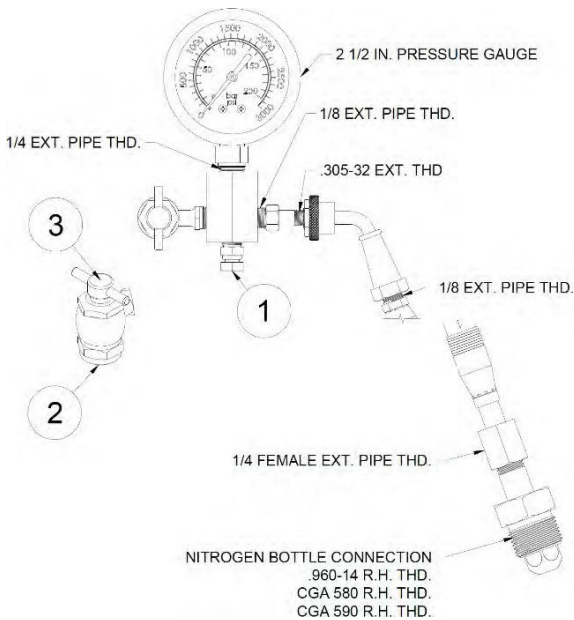

Figure 9: Charging Kit
3. Add nitrogen using appropriate charge kit (REXA part number K09851-3000). See Figure 9 below. Using the Pre-Charging Procedure, DOC134, add nitrogen until the pressure reaches what is shown on the bottle tag (typically 1900 psi) shown in Figure 10.
Back out the gas chuck "T" handle (Figure 9: Item 3) all the way (counterclockwise) before attaching charging assembly to accumulator gas valve.
Close the bleed valve using a 7/16" wrench (Figure 9: Item 1).
Attach swivel nut to gas valve (Figure 9: Item 2) and tighten to 11-16 in-lbs. using an 11/16" wrench. Make sure not to loop or twist the hose.
When finished pre-charging the accumulator, turn “T” handle all the way out on the gas chuck (Figure 9: Item 3), then open the bleed valve (Figure 9: Item 1).